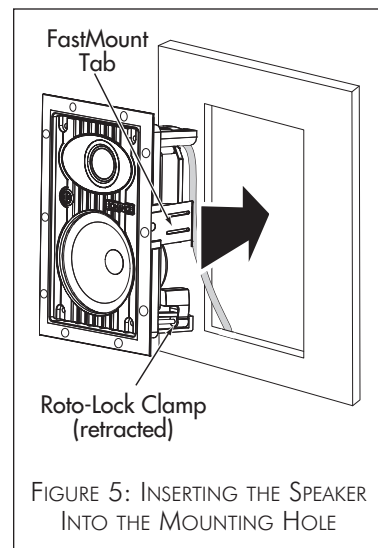

FIGURE 5: INSERTING THE SPEAKER INTO THE MOUNTING HOLE
4. Make sure all the Roto-Lock clamps are retracted so that they are tucked within the mounting hole's border. Insert the speaker into the hole in the wall (*Figure 5*). The Roto-Lock system can accommodate a maximum wall material thickness of 1 1/4" (32mm).